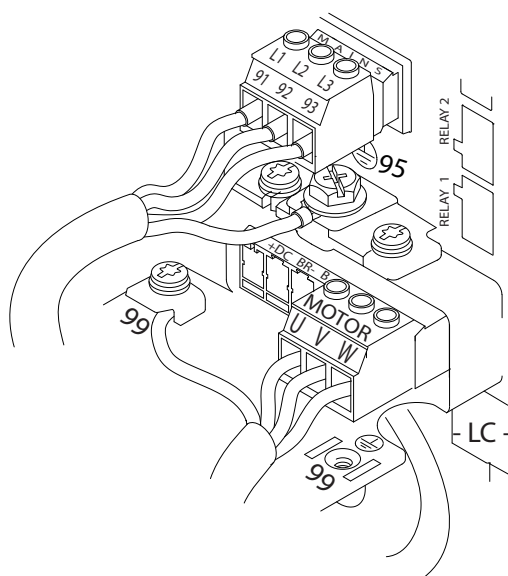

Figure 4.6 Example of Motor, Line Power and Ground Wiring
Figure 4.6 represents line power input, motor, and grounding for basic adjustable frequency drives. Actual configurations vary with unit types and optional equipment.
1. Connect 3-phase AC input power wiring to terminals L1, L2, and L3 (see *Figure 4.6*).